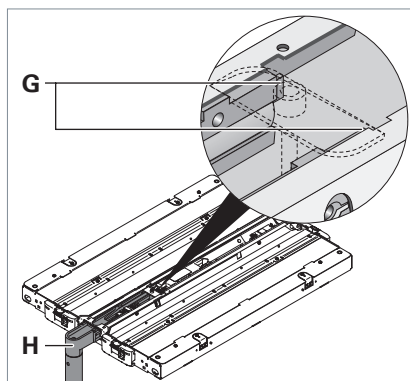

Fig. 20: Dismounting the light chassis from a light with lateral connection.
- Press the two ends **G** of the support arm **H** towards each other with pliers and pull the light chassis off the support arm, see Fig. 20.